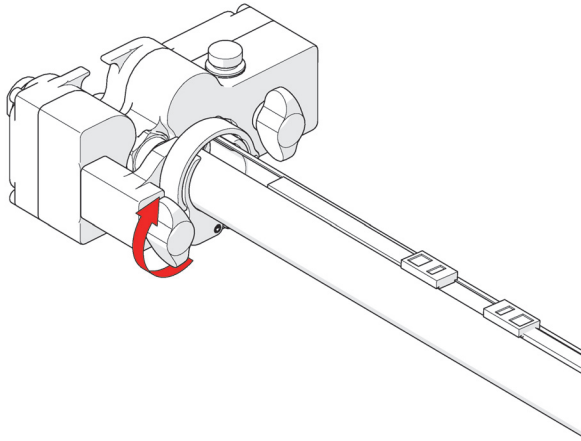

Figure 2-126 Tighten wing knob
2. Tighten the cable management clamp wing knob (see Figure 2-126 on page 145).